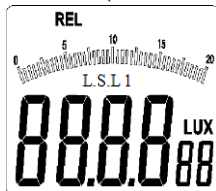

Figure 3-1-2A
- Press and hold REL/PEAK key for a short time (composite key for relative/peak value measurement), “REL” will appear on the top left position of the LCD interface (as shown in figure 3-1-2A), and the device will enter the relative value measurement mode;